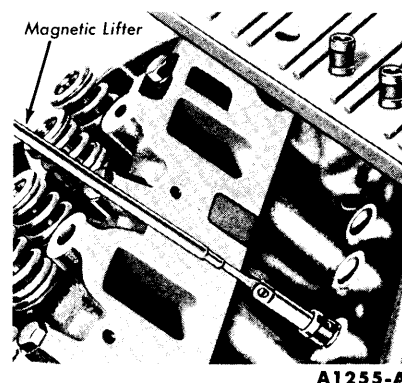

FIG. 62—Valve Lifter Removal—Intake Manifold Removed
11. Lift the valve lifters from the cylinder block and place them in a rack so that they can be installed in their original bore (Fig. 62). **The internal parts of each hydraulic valve lifter assembly are matched sets. Do not intermix the parts. Keep the assemblies intact until they are to be cleaned.**